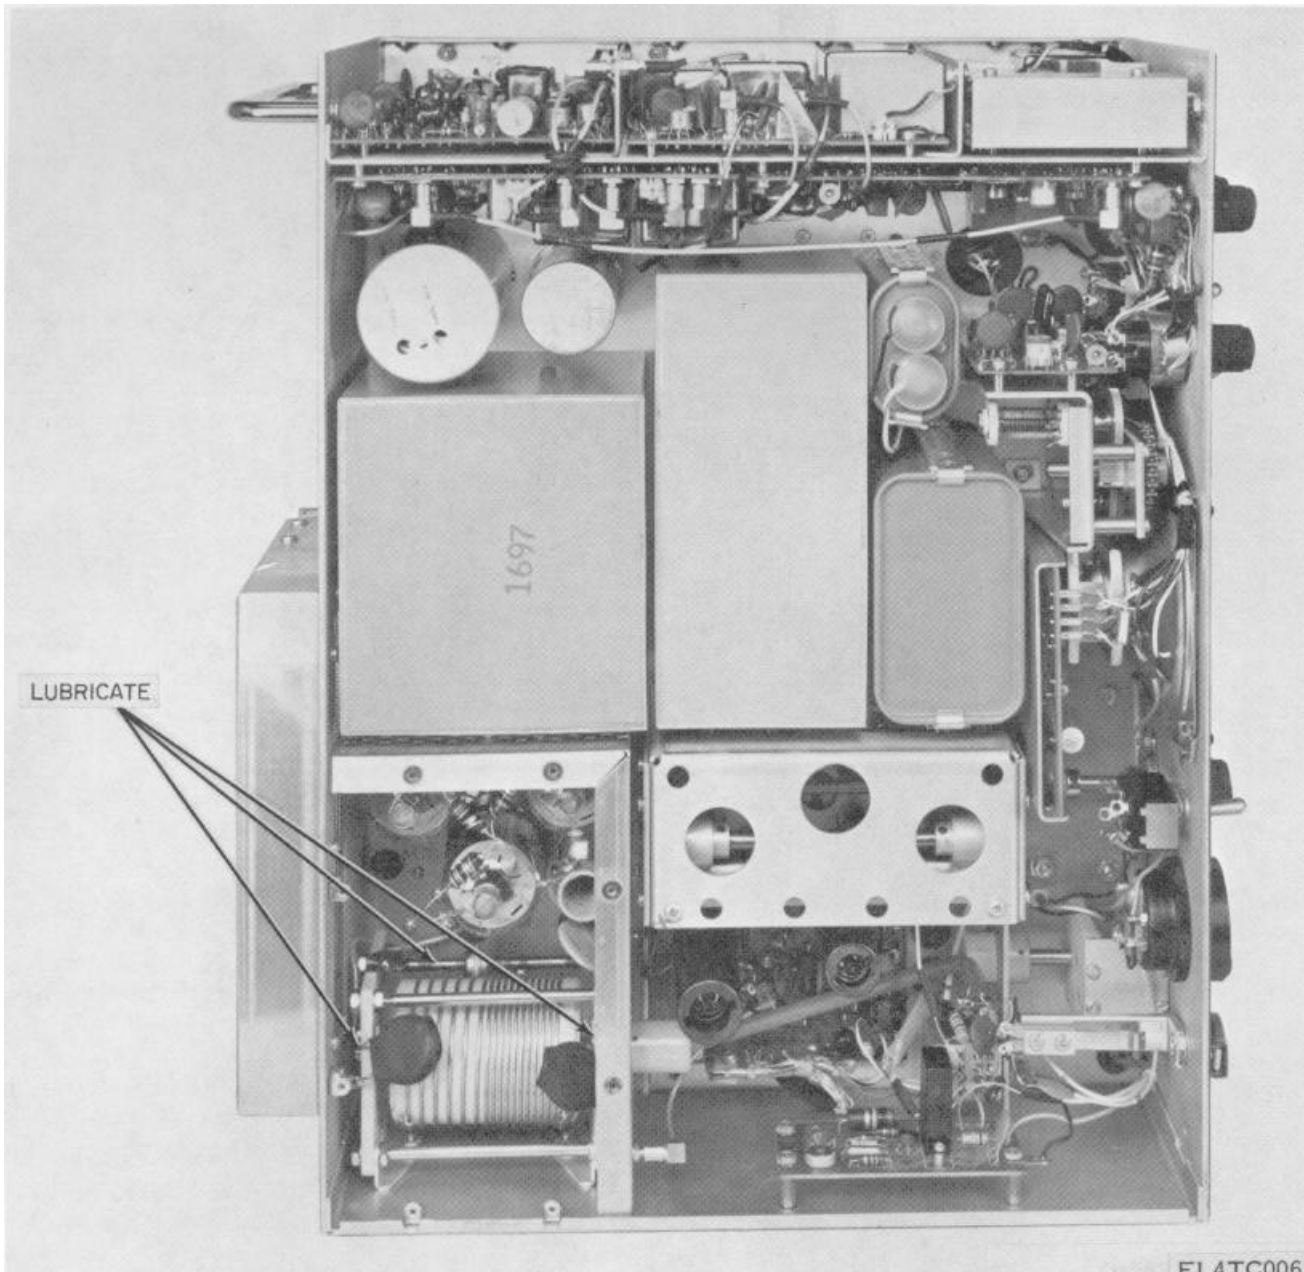

Figure 5-1. Rt unit, top view, location of lubrication points.
Lubricate the radio set during monthly preventive maintenance (para 5-5) at the locations shown in figures 5-1 through 5-4. Use grease, Aircraft (GAI) (FSN 9150-190-0883) for lubrication applications (do not overlubricate). During storage, lubrication is not necessary.
a. *Rt Unit* (figs. 5-1, 5-2 and 5-2.1) In the rt unit, remove the cover (para 5-11a) and the pa. Dust cover (para 5-11a). Lubricate the pa. variable inductor shaft